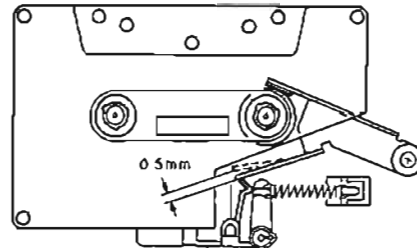
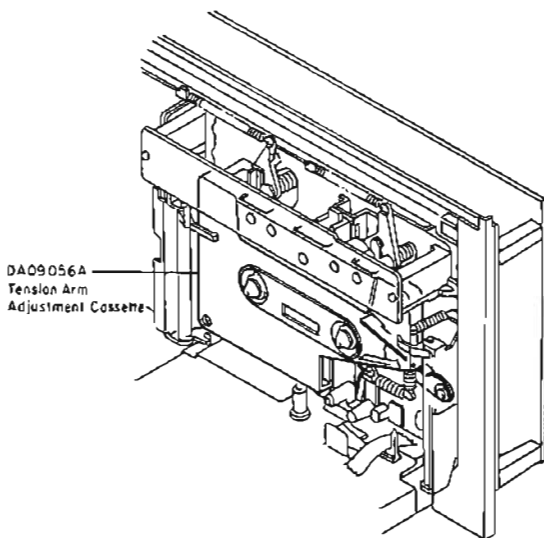

Fig. 2.13
Fig. 2.12
Refer to Figs. 2.12 - 2.15.
- (1) Load a Tension Arm Adjustment Cassette (DA09056B) in the cassette deck referring to Fig. 2.12.
- (2) Set the cassette deck in Play mode.
- (3) Bend the Back Tension Arm with pliers so that the gap between the Cassette Holding Spring assembled on the Head Base Ass'y and the Back Tension Arm becomes 0.5 mm as shown in Fig. 2.13. Do not bend the top of the Back Tension Arm.